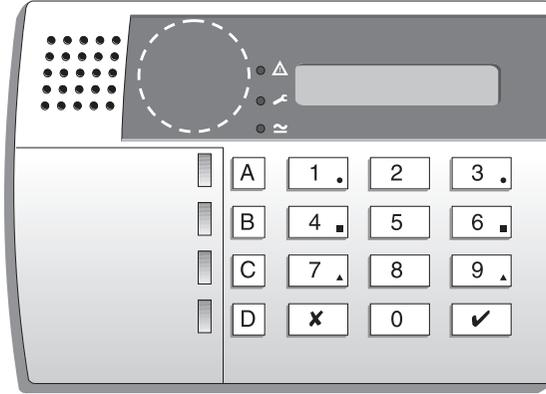

Figure 24. Sensitive Area on 9930 Keypad for Tag
When presenting a proximity tag to a 9930 keypad, whether for programming or for normal use, make sure that the tag is touching the front of the keypad to the left of the display as shown in Figure 24. The 9940 keypad has a proximity coil that makes the whole case sensitive to tags.
5. Present the proximity tag to the front of the keypad (see Figure 24).